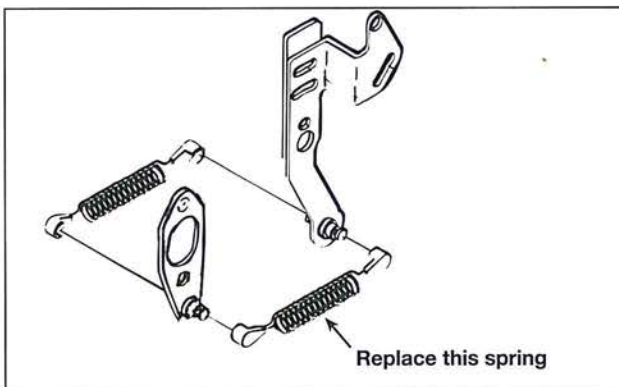

Fig. 16
**For '97 - '98 vehicles:** There are two fuel pump return springs with plastic ends. Remove one spring as shown in Figure 16 and replace it with the spring provided.